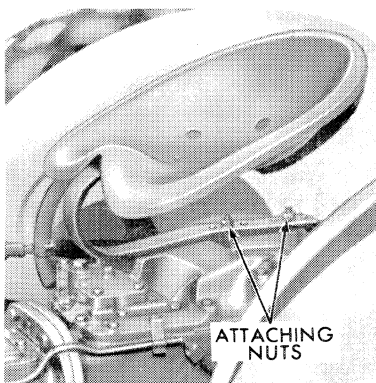
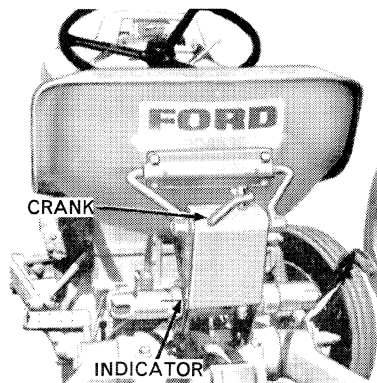

Figure 1
Figure 2
Your new Ford Tractor is equipped with either a pan seat, Figure 1, or deluxe contoured seat, Figure 2.
**Pan Seat:** If the seat is not in the most comfortable position, it can be moved closer to, or farther from, the steering wheel by removing the attaching nuts, Figure 1, and repositioning the seat as desired. The seat can also be tilted back, permitting you to stand.
Flotation of the seat can be adjusted to accommodate your individual weight. Adjustment is made by turning the crank, Figure 2, until the indicators align when you are in the seat. If softer or stiffer flotation is desired, turn the crank accordingly.